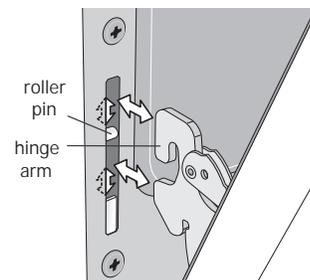

Figure 34: Replacement and location of hinge arm and roller pin
3. Firmly grasp both sides of oven door along the door sides. Do not use the oven door handle (See Figure 34).
4. Close the door to approximately 10 degrees from the door frame (See Figure 34).
1. Firmly grasp both sides of oven door along the door sides. Do not use the oven door handle (See Figure 34).
2. Holding the oven door at the same angle as the removal position, seat the hook of the hinge arm over the roller pins located on each side of the oven door frame (See Figure 34 and Figure 35). The hook of the hinge arms must be fully seated onto the roller pins.